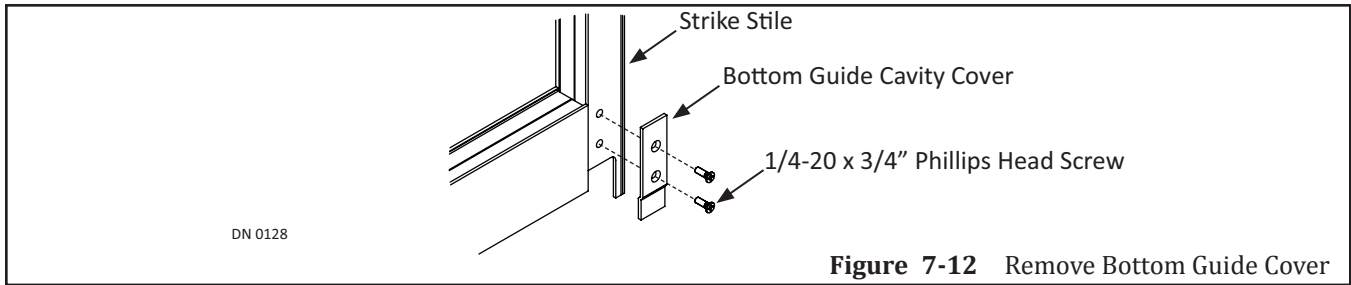

Figure 7-12 Remove Bottom Guide Cover
2. Remove (2) 1/4-20 x 3/4" Phillips Head Screws to remove the Cover Plate. Please see Figure 7-12.